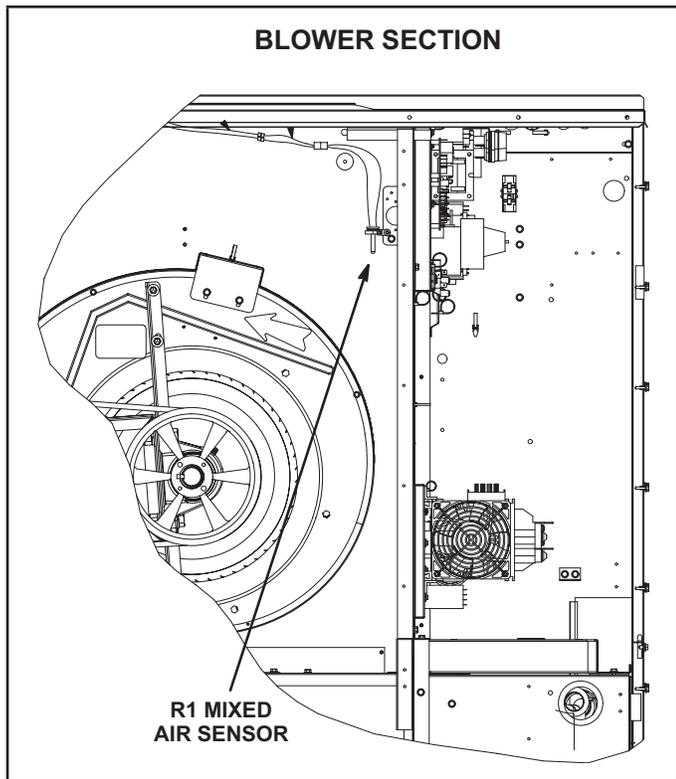
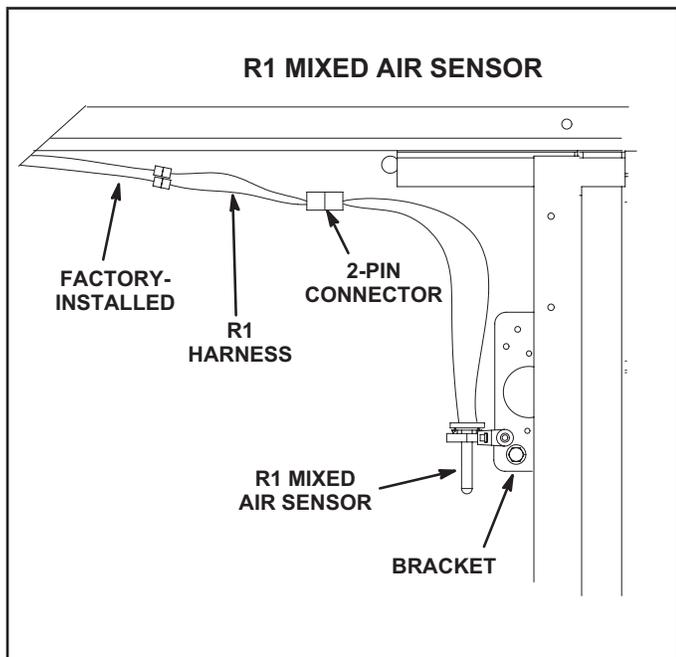

FIGURE 22
FIGURE 23
- 2 - Install sensor on bracket as shown in FIGURE 22 and FIGURE 23.